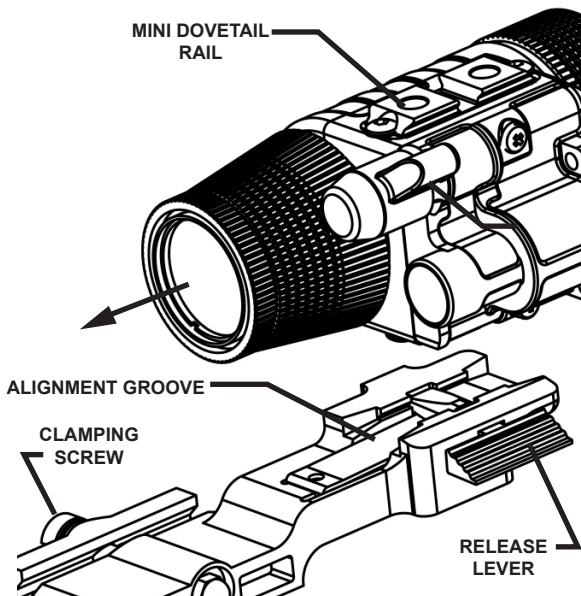

Figure 2-11 Weapon Mount Installation
1. Orient the monocular and weapon mount as shown in Figure 2-11.